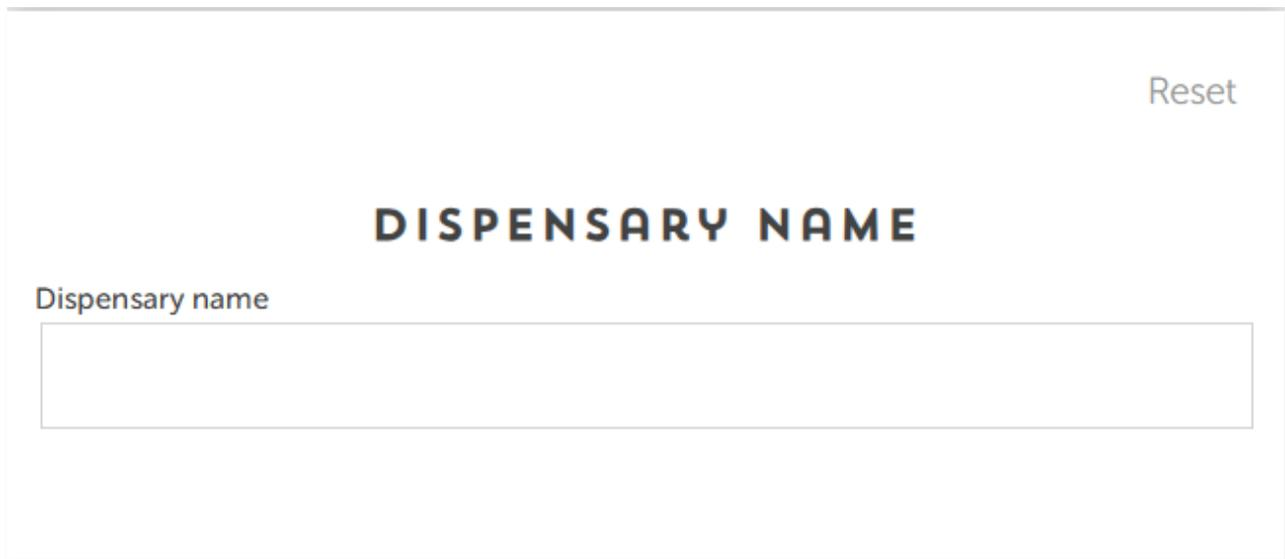

Figure 19: Free text field for Dispensary Name
c. Submit your dispensary/store name – see Figure 19.